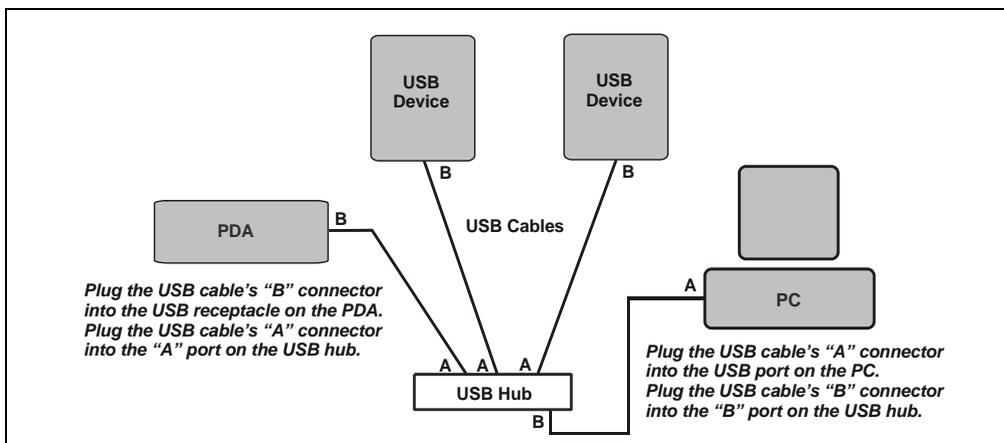

Figure B-7. Example USB Connections: Modules Connected to an External Hub
1. Plug the “A” connector of a USB cable (P/N 063246) into a port on the external USB hub (P/N 060392) (see Figure B-7).
4. Plug the “B” connector of the USB cable into a port on the external USB hub (see Figure B-7).